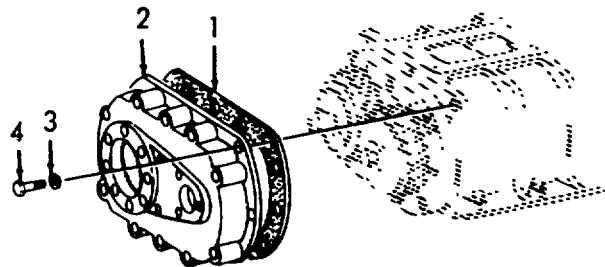

Figure 3-43. End Covers, Installation.
- (48) Refer to figure 3-43 and install gasket (1) and cover (2).
- (49) Install ten washers (3) and ten bolts (4). Torque bolts to 13-17 lb-ft (18-23 Nm).